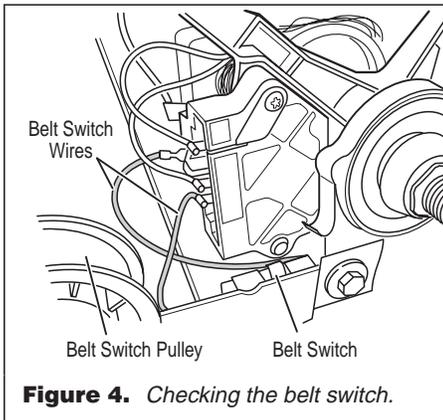

Figure 4. Checking the belt switch.
- 4. Check the belt switch by measuring resistance between the belt switch wires, as shown in figure 4, while pushing up the belt switch pulley.